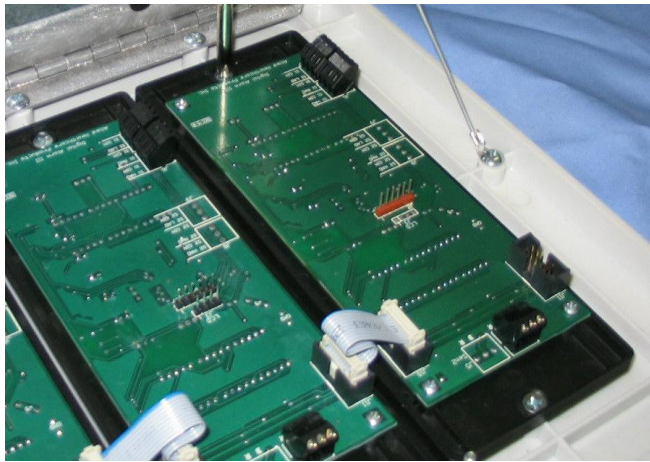

Figure 17 – Remove Module for Labeling
- 4.5.2 Support the Front panel and remove the individual modules to be labeled (see Figure 17).